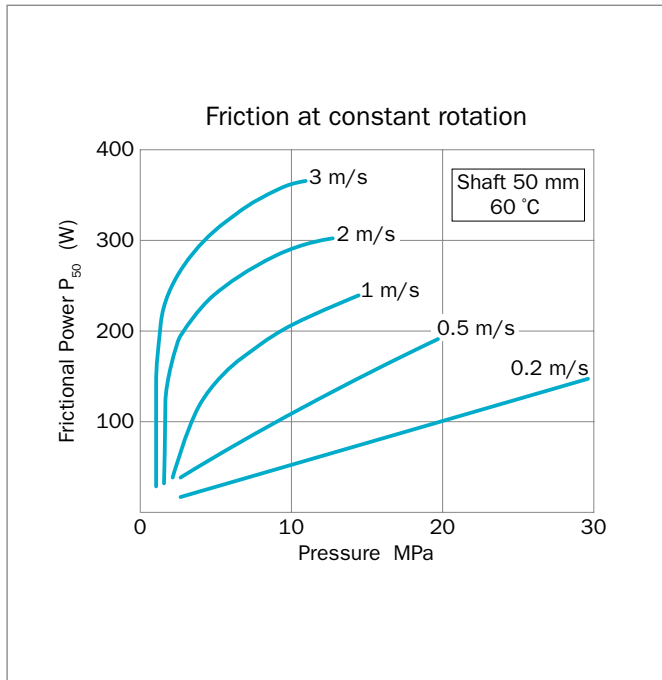

Figure 153: Frictional power for Turcon® Roto VL Seal®
Guide values for the frictional power (P) can be determined from the graph in Figure 153. They are shown as a function of the sliding speed and operating pressure for a shaft diameter of 50 mm with an oil temperature of +60 °C. At higher temperatures, these application limits must be reduced.